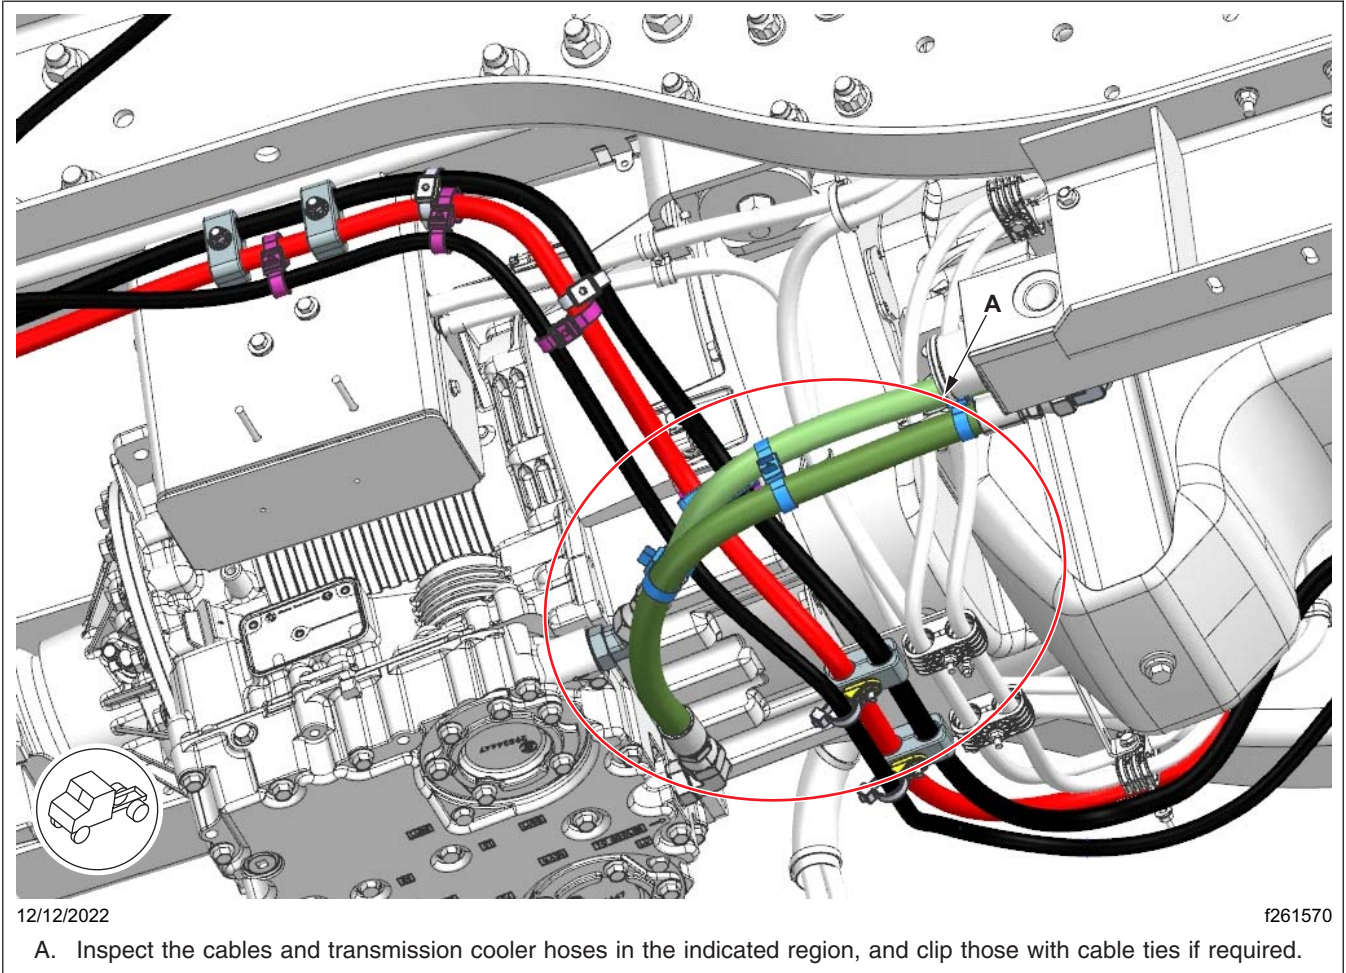

Fig. 3, Ideal Positioning of the Cables, Clamps, and Hoses
10. **Figure 3** and **Figure 4** show the ideal positioning of the power cables, clamps, and transmission cooler hoses.